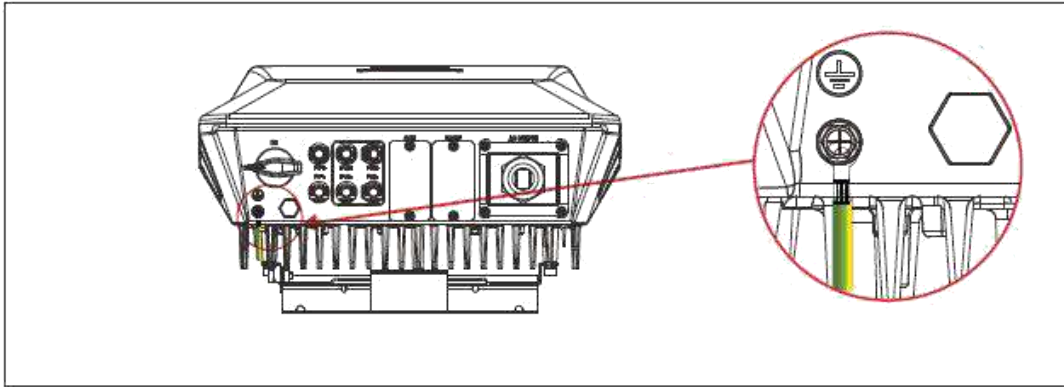

Figure 5.3 Securing the PGND cable
Step 3 Secure the PGND cable (done by step 1 & 2) using the ground bolts and tighten the bolts to a torque of 5 N m using a socket wrench. Ensure that the PE wire is grounding well and impedance between earth wire and neutral wire is no more than 10 Ω , as shown in Figure 5.3.